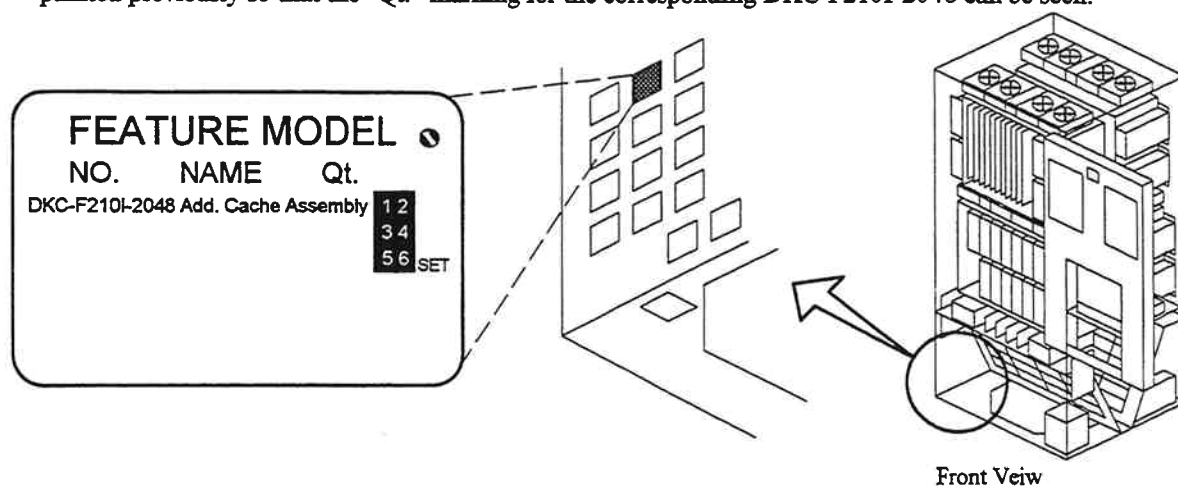

Fig. 3.3.7.5.2-2 Location of the Nameplate
- a. Refer to Fig. 3.3.7.5.2-2 and Table 3.3.7.5.2-3 to paint out unnecessary numbers and wipe off a necessary number painted previously so that the "Qt." marking for the corresponding DKC-F210I-2048 can be seen.